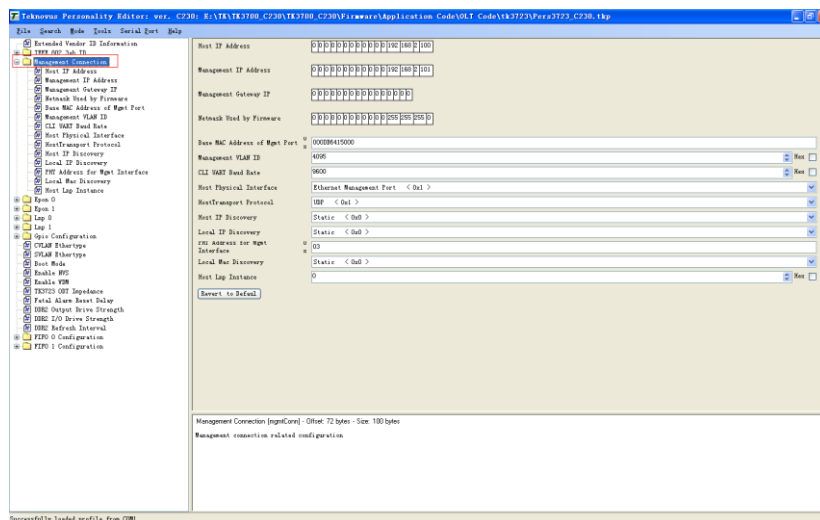

Figure 8-29 Configuration Parameters
- Click Management Connection on the left side of the main window and display the detailed parameters on the right side shown in the Figure 8-29;